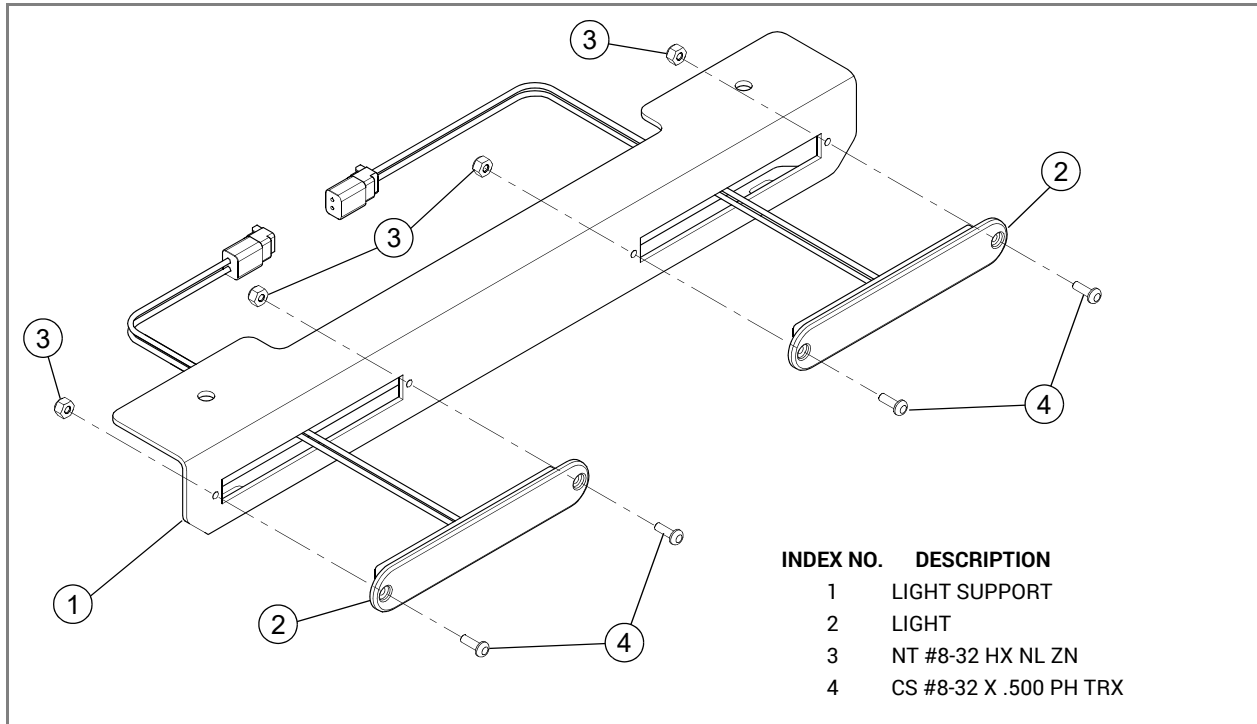

FIG. 1
2. Attach the lights to the light support using the hardware shown. FIG. 1